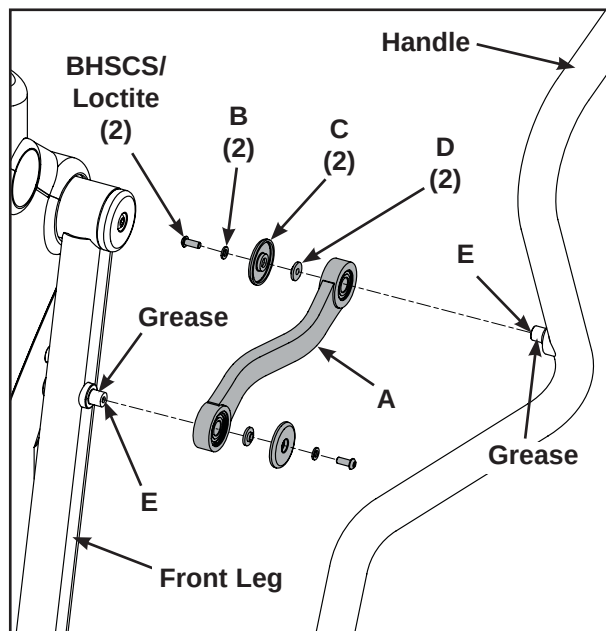

Figure 2
- A.** Using a 5/32" Allen wrench, remove each Button Head Socket Cap Screw (BHSCS), washer, end cap and spacer securing both ends of the S-link. See Figure 2.
- A.** Place grease on the outside of shaft. See Figure 2.
- B.** Place the new S-link (A) in position. See Figure 2.
- C.** Place a drop of loctite (E) to threads of each BHSCS removed in step 3A and another drop inside the shaft into where each BHSCS will be tightened.
- D.** Install the two new spacers (D), two new end caps (C), two new washers (B) and two BHSCS/loctite as shown in Figure 2. **NOTE:** Instead of installing these new parts you can reinstall the old end cap and nylon washer.